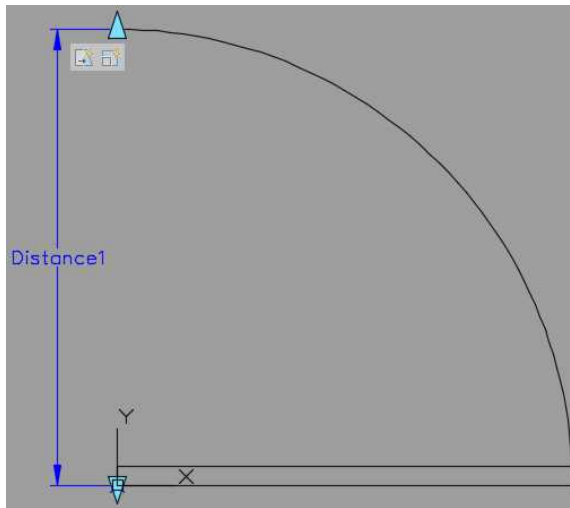

FIGURE 9.46: The A-D00R-36IN block with the Stretch and Scale actions assigned to the Distance parameter
4. At the Select objects: prompt, select the door and then press ↵. The Stretch Action icon appears near the end of the door swing (see Figure 9.46).
The Scale Action icon appears next to the Stretch Action icon, as shown in Figure 9.46.